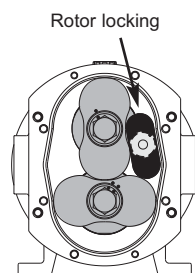

Figure 3
21. Position the rotor locking tool 111 in accordance with figures 3 and 12 respectively and tighten the bearing lock nuts 50 until there is no more backlash in the bearing assembly.